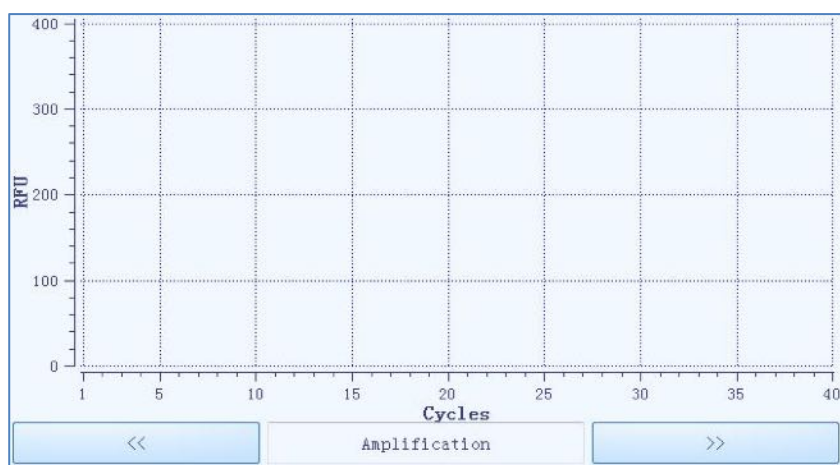

Figure E-5.1 Run Monitoring Diagram - Real-time Amplification Curves
- ▶ If users select the **Fluorescence** option in the run monitoring option bar, users can press  or  keys below the run monitoring diagram to choose the monitor content, which can be the real-time **Amplification** curves, **Melting** curves or fluorescence **Heat Map** of the current experiment, as shown in figure E-5.1.
- a. The run monitoring diagram will display the real-time **Amplification** curves of the current experiment by default, as shown in figure E-5.1